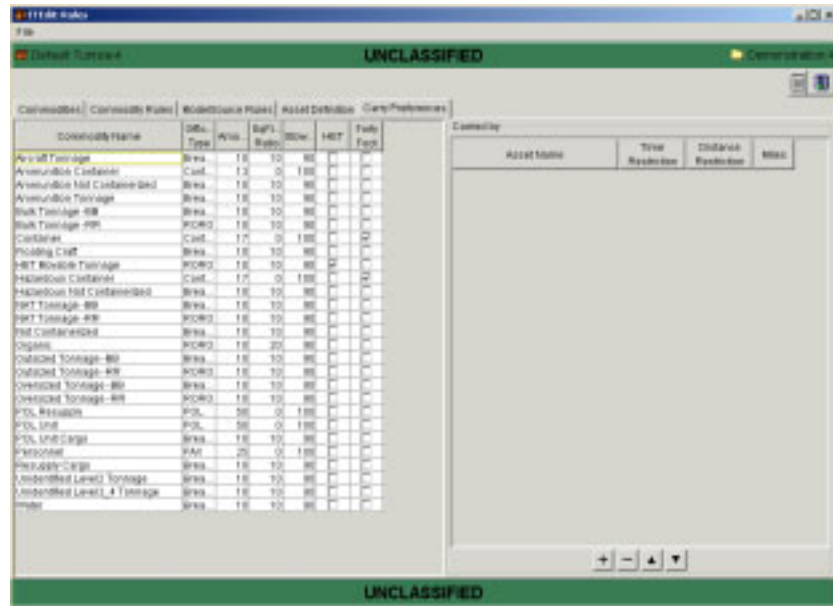

Figure 5.131 ETEdit Rules Window (Carry Preference Tab)
- As needed, on the ETEdit Rules window, click the Carry Preferences tab. The current commodities table and the carry preference rule table are displayed (Figure 5.131).